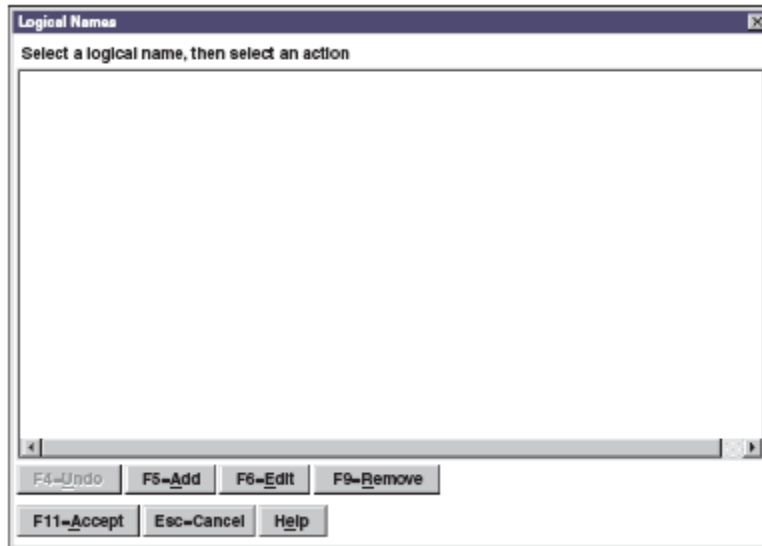

Figure 10. Logical Names
8. The Logical Names window, illustrated in Figure 10, is displayed. From this window, you can: